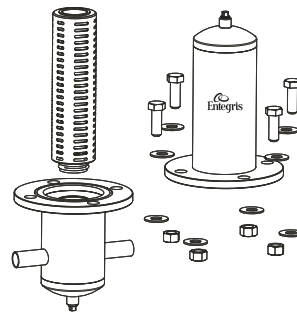

Figure 5.
6. Wiggle and press the cartridge with a little pressure because the cartridge O-ring is designed to fit tightly to ensure a better seal, Figure 5.